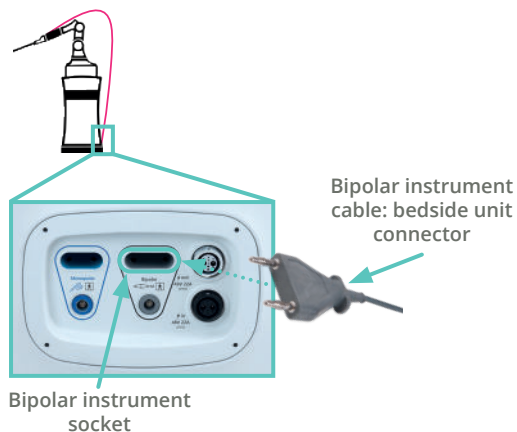

Figure 10.14 Connecting the bipolar instrument cable to the instrument bedside unit
2. The instrument bedside unit connection panel (Figure 10.14)